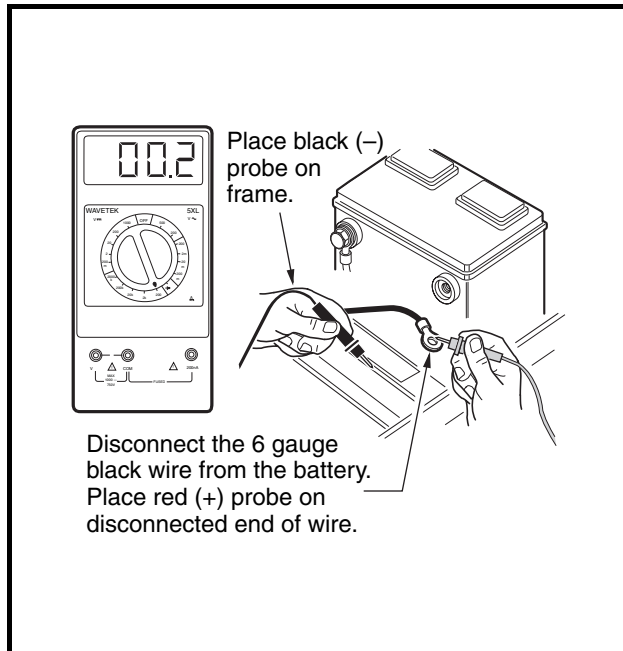

Figure 11-10 Battery Ground Cable Test
- 6.2. Set the multimeter to 200 ohms. Place the red (+) probe on the unconnected end of the 6-gauge black wire, and place the black (–) probe on the vehicle frame (**Figure 11-10, Page 11-15**). The reading should be continuity. If the reading is incorrect, check that terminal connections are clean and tight. If the connections are good and the reading is incorrect, repair or replace the wire.